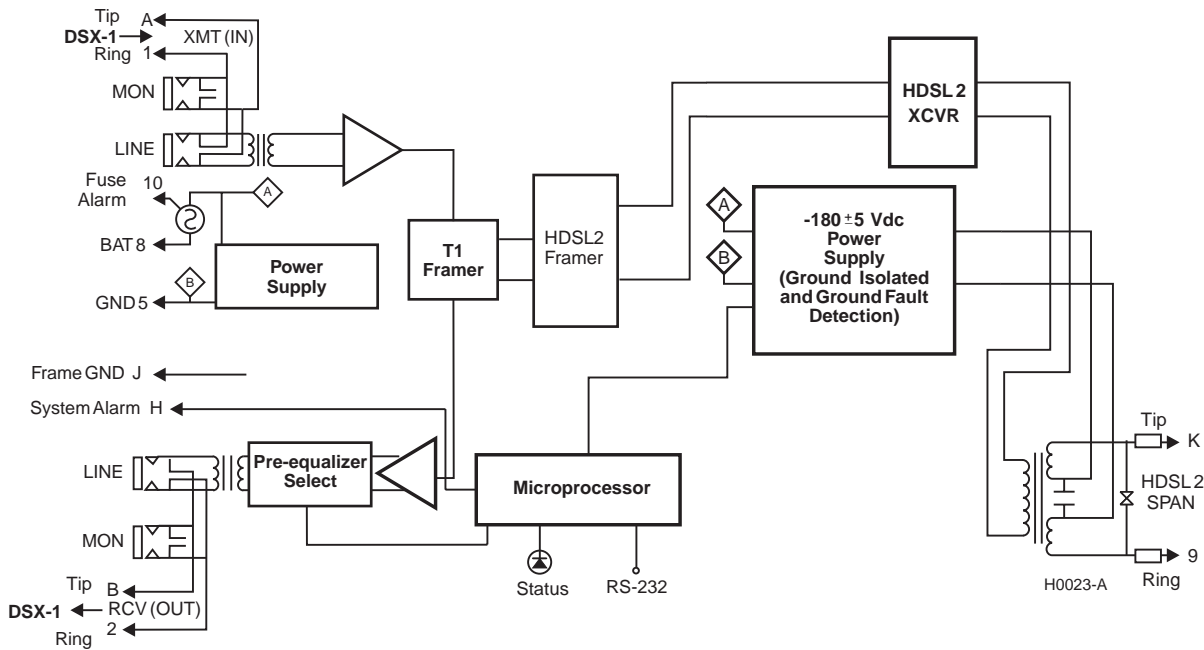

Figure 34. H2TU-C Block Diagram
Figure 34 shows a block diagram of the H2TU-C. The H2TU-C receives a 1.544 Mbps DSX-1 data stream from the DSX-1 digital cross-connect interface. The H2TU-C contains a DS1 frame synchronizer controlled by an 8-bit microprocessor that determines the type of framing on the DS1 stream. The H2TU-C synchronizes to the type of framing detected. The H2TU-C recognizes SuperFrame (SF), including D4 or Extended SuperFrame (ESF).